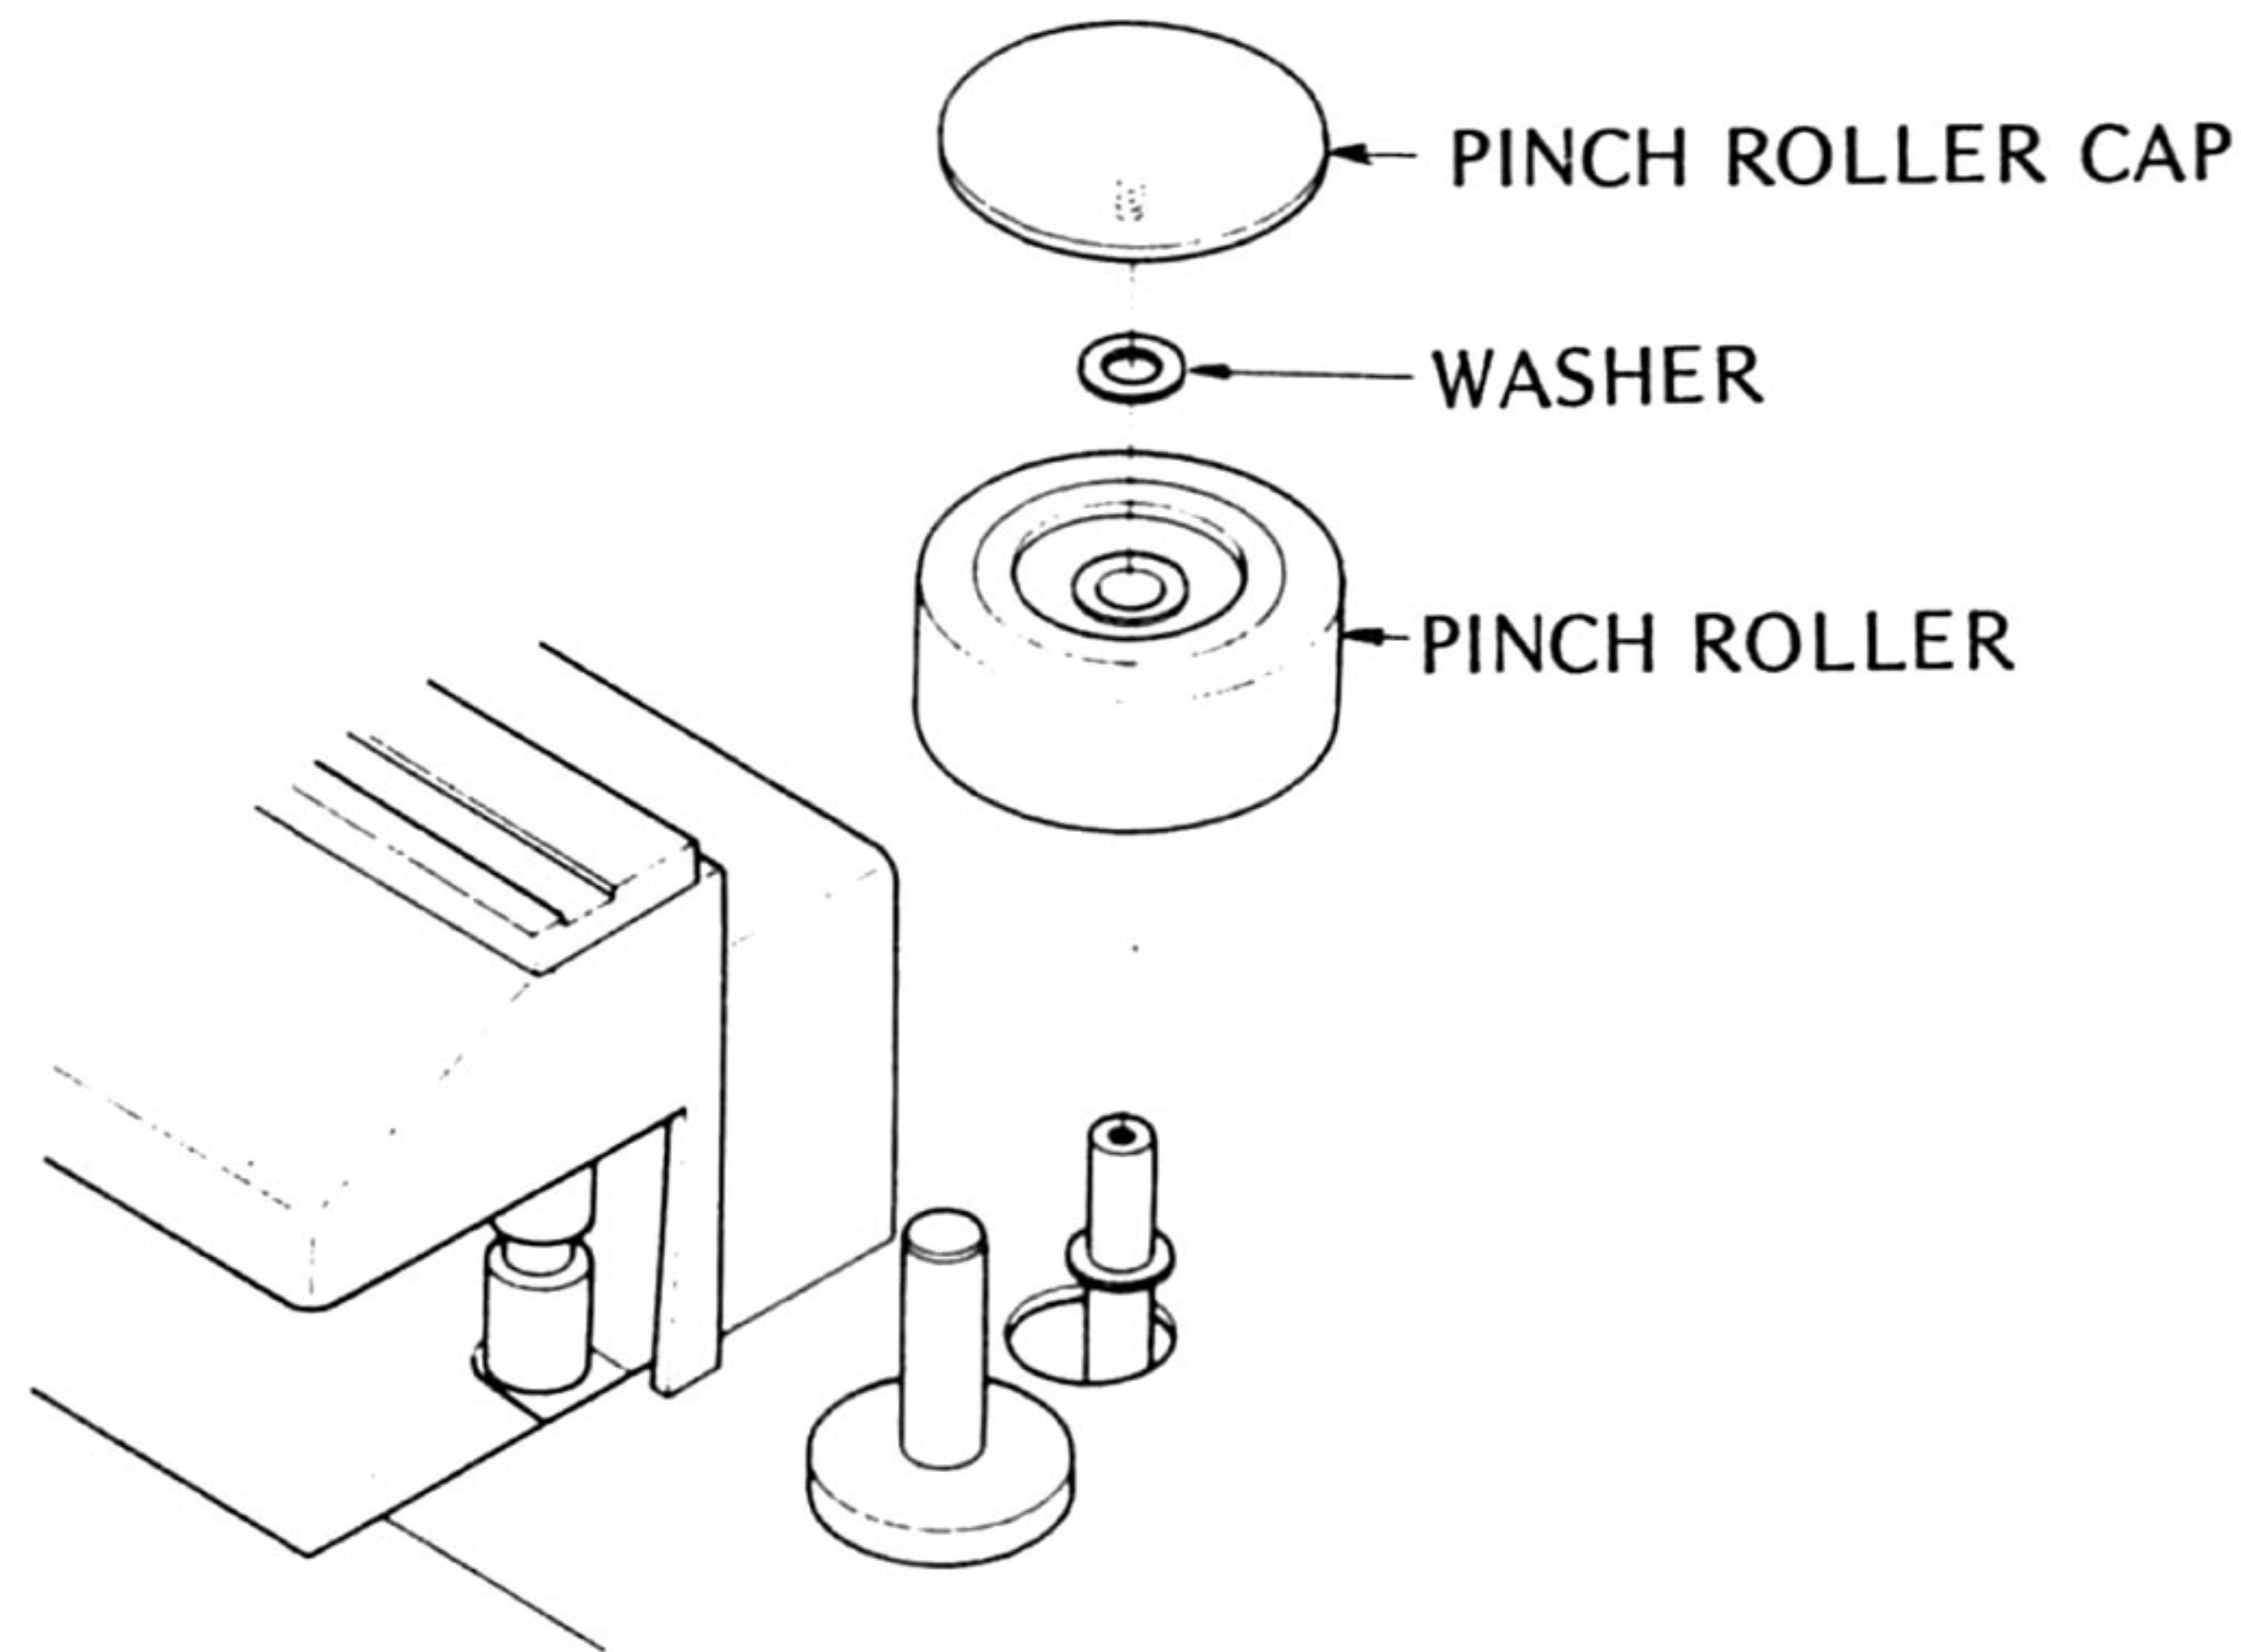

Fig. 4-5 Pinch Roller Removal
2. Observe reading on wave analyzer and turn screw "H" (Fig.4-5) $\frac{1}{4}$ turn clockwise. If the reading decreased, turn screw "A" and "Z" $\frac{1}{4}$ turn clockwise. If the reading increased when "H" was turned $\frac{1}{4}$ turn clockwise, turn "H" counterclockwise past the original setting to $\frac{1}{4}$ turn counterclockwise. If the reading decreased, turn screw "A" and "Z" counterclockwise by the same amount.